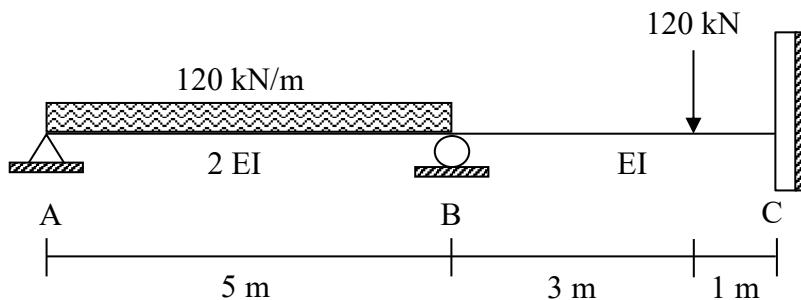

Figure B3 / Rajah B3
A continuous beam is pinned at A, roller at B and fixed at C respectively is subjected to a uniformly distributed load and point loads as shown in Figure B3. By using Moment Distribution Method:
- CLO1 (a) Identify value of fixed end moment (FEM) for support A, B and C in Figure B3.